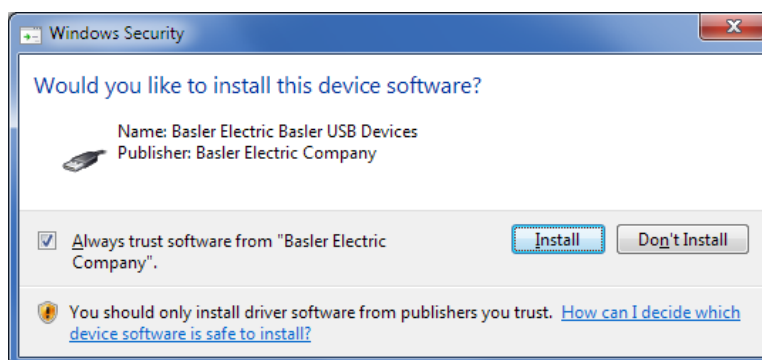

Figure 233. Windows Security
- Step 6. If a Windows Security window (Figure 233) appears, click Install.